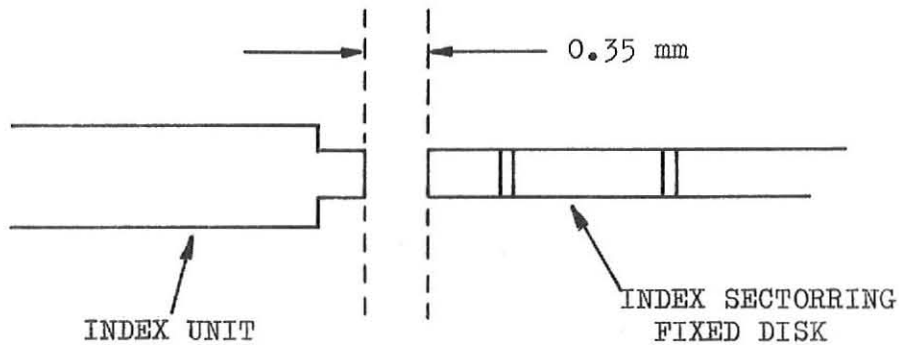

Fig 7-27
2. Adjust the index unit with respect of the sector ring by means of a feeler gauge 0.35 mm. See fig 7-27